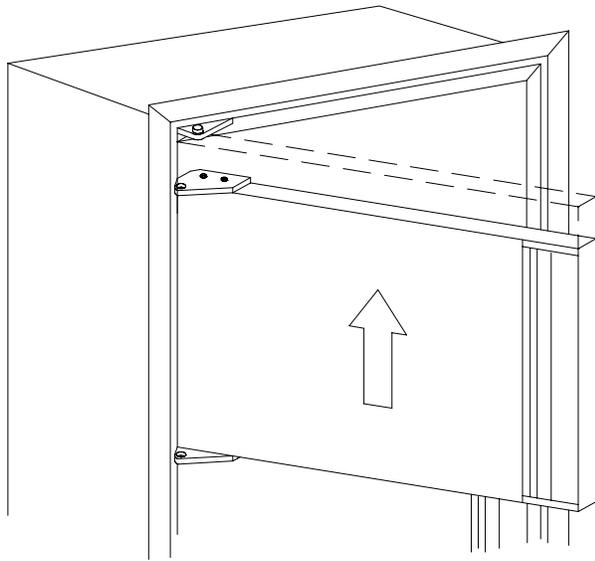

Figure 18
- Remove the lower door by opening it slightly and pulling the top of the door away from the refrigerator. Allow enough room so the door can be lifted up and off of the bottom hinge pin shoulder (See Figure 18). Be sure to save the hinge plates along with the spacer used in the middle hinge bracket, for reassembly later. (See Figures 19A, 19B, and 19C)
- Reposition the upper door in a similar manner as described in Step #9, except the top of the door must be engaged into the hinge pin shoulder before setting the door in place. (See Figure 18)
Figure 18 illustrates the location of the 400 Series refrigerator's operating controls. All operating controls are conveniently located below the door.